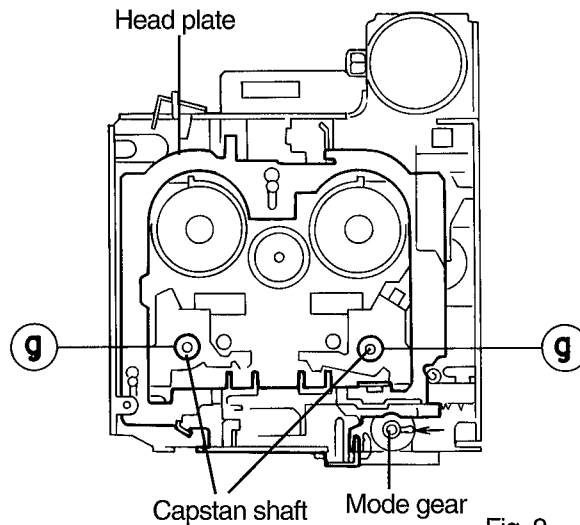

Fig. 9
■ **Removing the Flywheel Assembly ( See Fig. 9 )**